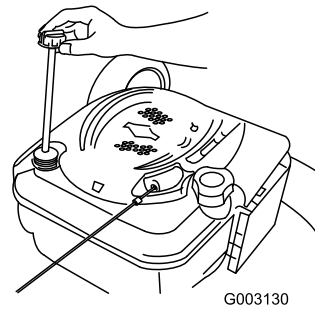

Figure 44
2. Remove the dipstick (Figure 44).